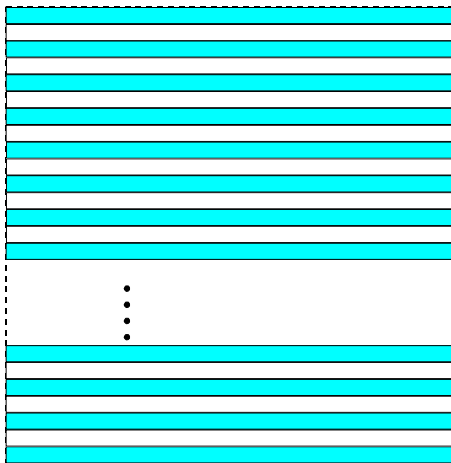

Fig. 119: Decimation of 2 (Mono Cameras)
- 2 for mono cameras: only every second row of the acquired frame will be transmitted out of the camera (Figure 119).